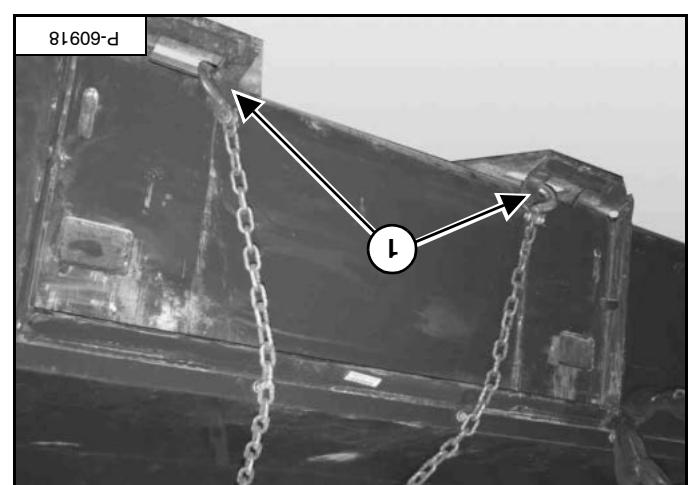
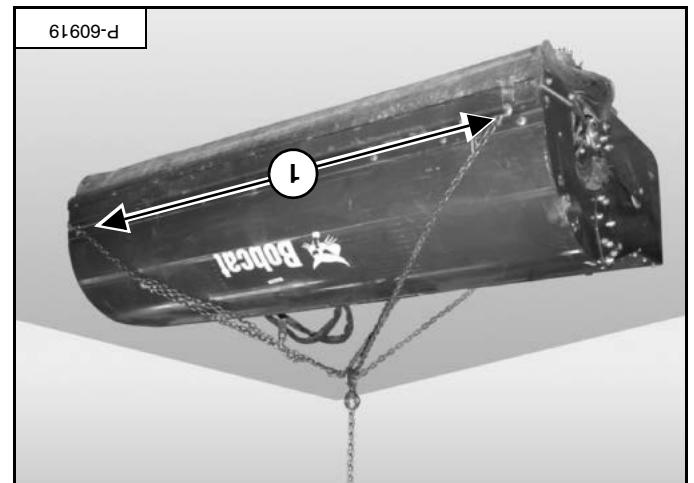

Figure 96
Figure 95
Fasten the chains to the sweeper (item 1) [Figure 95] and [Figure 96].